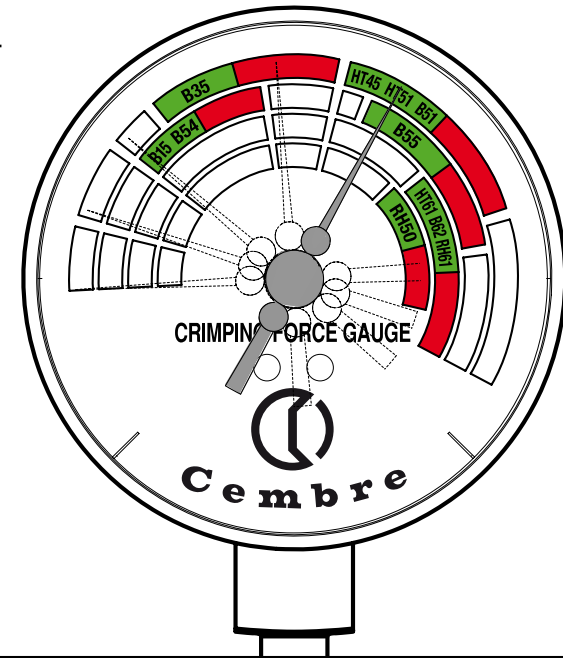

FIG. 5
3.2) Storage (Ref. to Fig. 5)
3.2) Custodia (Rif. a Fig. 5)